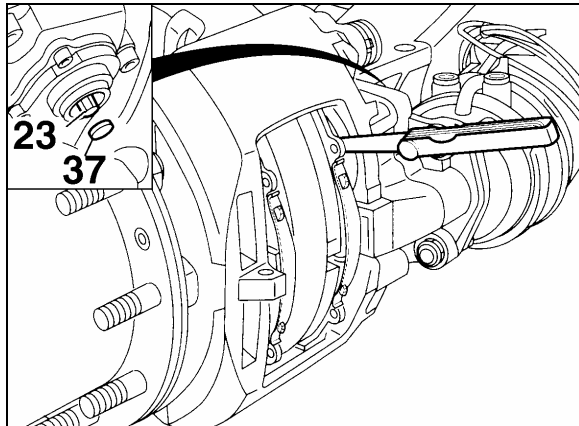

FIGURE 38: RUNNING CLEARANCE
- Insert a feeler gauge 0.028 inch (0.7 mm thickness) between tappet and pad back-plate (Fig. 38). Turn adjuster pinion clockwise until 0.028 inch (0.7 mm) clearance is achieved. Replace cap (37) (Prevost # 641313).
- To ensure a constant running clearance between the rotor and pads, the brake is equipped with an automatic adjuster unit. When the pads and rotor wear, the running clearance between the pads and rotor increases. The adjuster (23, Fig. 38) and turning device turn the threaded tubes by the amount necessary to compensate the wear.